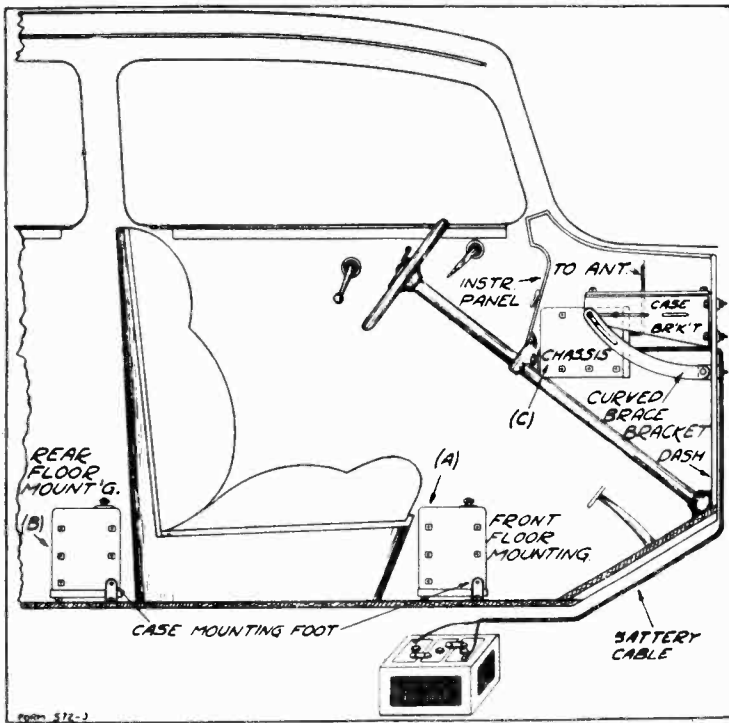

Fig. 1—Integral Mounting—Side View
By integral or all-in-one mounting of the chassis is meant operating the receiver by means of the controls on the chassis box (and not with a separate control unit). This method is the simplest, as no changes are required on the receiver. It can be installed in several ways, as explained below and as illustrated in Fig. 1. Still other methods of mounting and locations for the chassis will suggest themselves, depending on the space available and variations in the construction of different cars.
In Fig. 1(A) is shown how the chassis can be placed on the floor in front of the front seat. There are four rubber mounting feet on the bottom of the box, on which it stands. It may also be placed in back of the front seat (B) so as to be in the rear compartment of the car. In some cars, there is room enough between the two front seats for the chassis box to be placed. In coupes, the chassis may be placed on the shelf in back of the seat. Still other locations, as mentioned above, can be used, depending on the space available in different cars.
mounting. These mounting feet are shown in Fig. 1. One side of the foot, which is a small angle bracket, is secured to the end of the chassis box by means of one of the chassis mounting screws. The other side of the foot is screwed to the floor board or surface on which the chassis is resting, with a wood screw. The two feet are placed diagonally, that is on one end of the chassis box it is at the front, while on the other end it is at the rear.
In Fig. 1(C) is also shown how the chassis can be mounted on the dash by means of brackets, in such a way that the front portion of the box with the controls, is flush, or nearly so, with the instrument panel. This is a very desirable method of installation, as the receiver is rigidly in place, out of the way, and the controls are very accessible.
When mounted this way, two side case brackets (long type) are used, one on each end of the box, as shown in Fig. 1. Two mounting screws are generally used to secure each bracket to the end of the chassis box. Three may be used in cases where the distance between the instrument panel and dash is small. Six embossings with inset nuts are provided on each end of the chassis box. Any two of these or
three, as mentioned above, may be used for the bracket screws, which, together with the slots in the brackets, provides great flexibility in mounting. In addition to the side case brackets, two curved brace brackets and one cross strap brace as shown in Figs. 1 and 2 are used.
it may have to be moved to either side. In some instances, it can be mounted at the center of the instrument panel, but may have to be moved down and nearer to the dash than as shown in Fig. 1. Consideration should be given to the possibility of
When the case brackets are in place, the curved brace brackets can be installed. These can be put on in a number of different ways. The front or back case bracket screw can be used and the brace bracket itself can be mounted upward or downward. As a general rule it is mounted on the bracket screw farthest away from the dash and downward as shown in Fig. 1. The small angle brackets supplied with the receiver are secured at the base of the curved brace brackets as shown in Figs. 1 and 2, by means of the No. 10-32 3/8" Round Head Screw, nut and washer supplied. After the position of the brace brackets is decided on, put them in place and start the holes for them with a center punch. These brackets are bolted to the dash in the same manner as explained above for the case brackets.